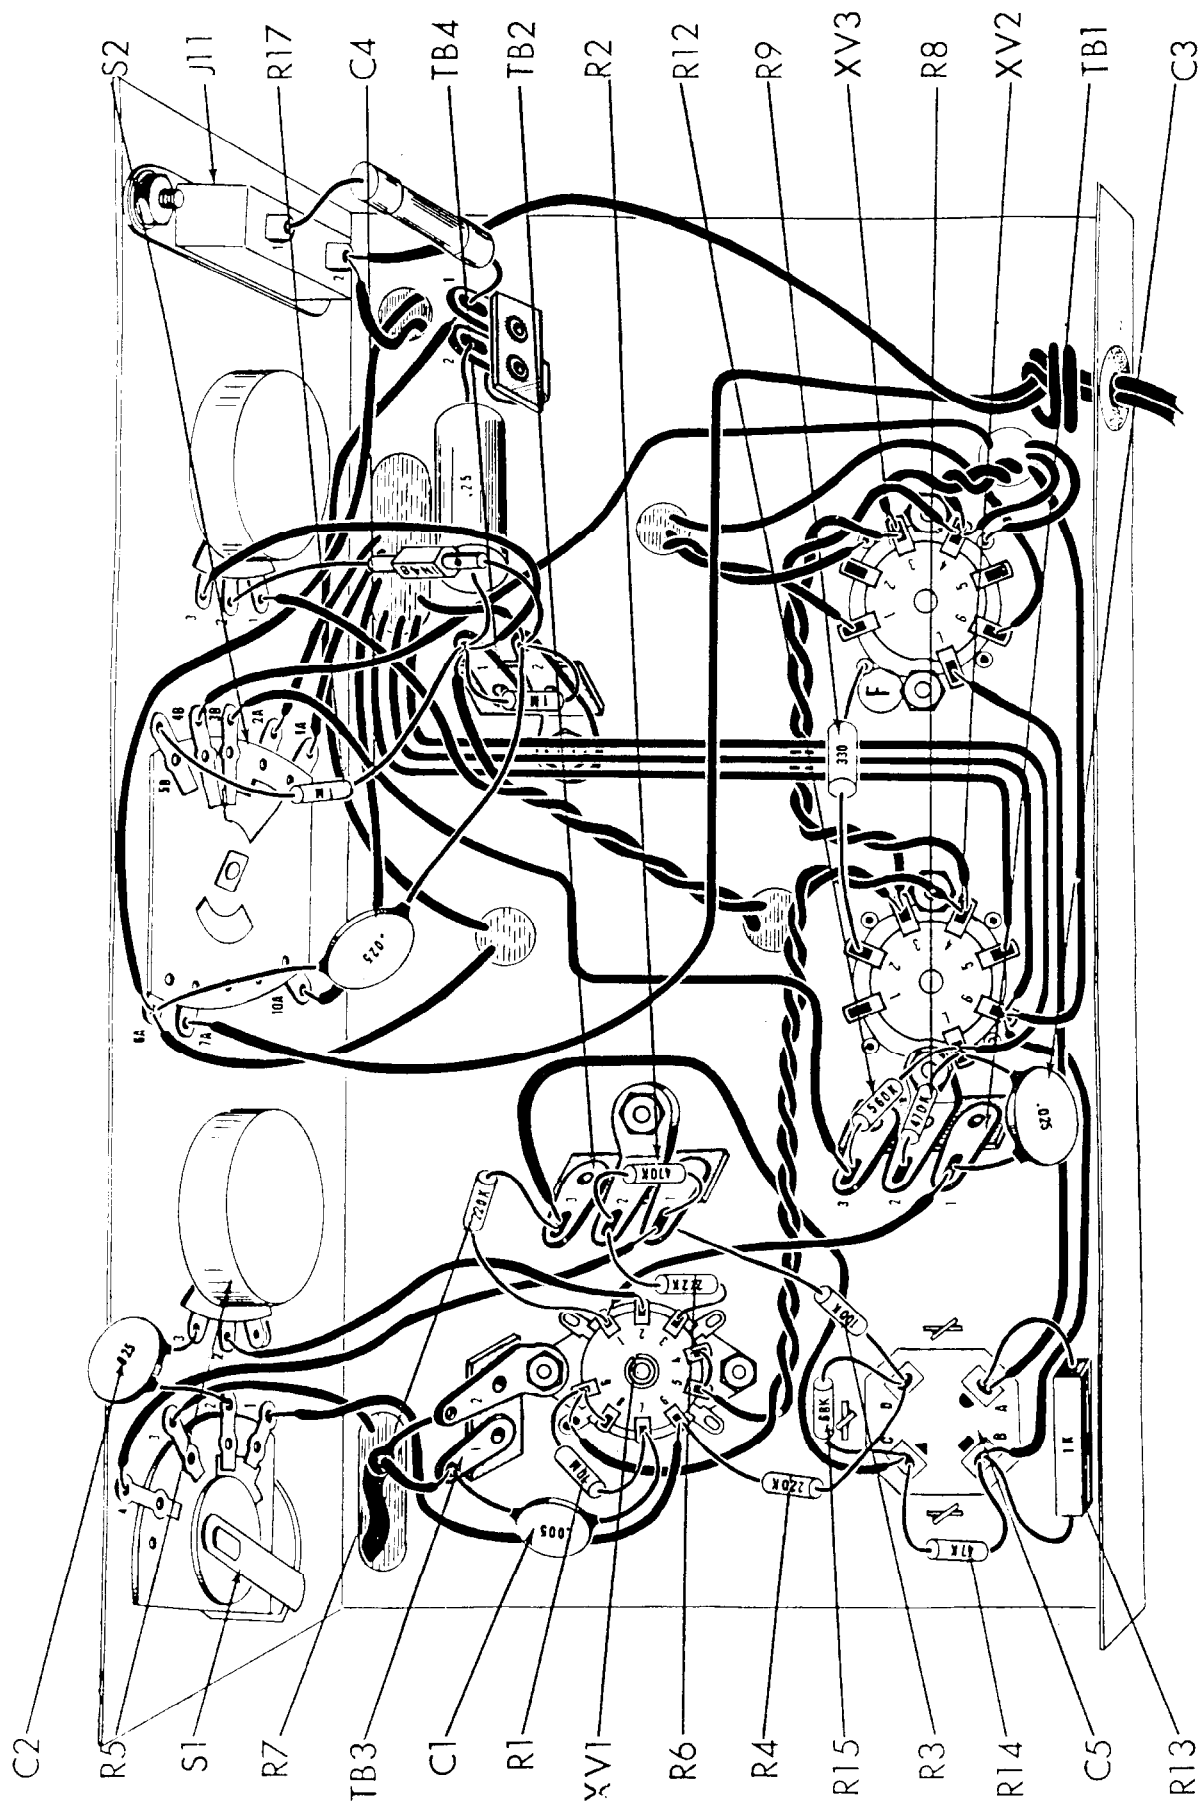

Fig. 5
1. () Fig. 5. Cut both leads on a 1M Ω (brown, black, green, silver) resistor, R17, to 3/4". Connect from S2-5B (S) to TB4-1 (S).
2. () Fig. 5. Cut both leads on a .025 mfd (25K or 25,000 mmf) disc capacitor, C4, to 1 1/4". Connect from S2-6A (S) to TB4-2 (S). Do not over heat TB4 or diode will be ruined.
3. () Fig. 5. Cut both leads on a 330 Ω (orange, orange, brown, silver) resistor, R9, to 3/4". Connect from XV2-2 (S) to ground lug "F" on XV3 (S).
4. () Fig. 5. Cut both leads on a 560K Ω (green, blue, yellow, silver) resistor, R12, to 1/2". Connect from TB1-3 (S) to XV2-7 (C).
5. () Fig. 5. Cut both leads on a 470K Ω (yellow, violet, yellow, silver) resistor, R8, to 1/2". Connect from TB1-2 (S) to XV2-7 (C).
6. () Fig. 5. Cut both leads on a .025 mfd (25K or 25,000 mmf) disc capacitor, C3, to 1/2". Connect from XV2-7 (S) to TB1-1 (C).
7. () Fig. 5. Connect a 3" piece of green wire from TB1-1 (S) to XV1-1 (C).
8. () Fig. 5. Bend ground lug over pin 1 of R5 and solder lug to this pin.
9. () Fig. 5. Connect a 4" piece of violet wire from S1-4 (S) to TB2-1 (C).
10. () Fig. 5. Connect a 3" piece of green wire from R5-2 (S) to XV1-2 (S).
11. () Fig. 5. Cut both leads on a .025 mfd (25K or 25,000 mmf) disc capacitor, C2, to 3/4". Connect from R5-3 (S) to S1-2 (S).
12. () Fig. 5. Connect a 1/2" piece of bare wire from XV1-8 (S) to XV1-9 (C).
13. () Fig. 5. Cut both leads on a 5000 mmf (5K or .005 mfd) disc capacitor, C1, to 3/4". Connect from TB3-1 (S) to XV1-7 (C).
14. () Fig. 5. Cut both leads on a 10M Ω (brown, black, blue, silver) resistor, R1, to 1/2". Connect from XV1-9 (S) to XV1-7 (S).
15. () Fig. 5. Cut both leads on a 220K Ω (red, red, yellow, silver) resistor, R4, to 1". Connect from XV1-6 (S) to C5D (C).
16. () Fig. 5. Cut both leads on a 220K Ω (red, red, yellow, silver) resistor, R7, to 1/2". Connect from XV1-1 (S) to TB2-3 (S).
17. () Fig. 5. Cut both leads on a 2.2K Ω (red, red, red, silver) resistor, R6, to 1/2". Connect from XV1-3 (S) to TB2-2 (C).
18. () Fig. 5. Cut both leads on a 470K Ω (yellow, violet, yellow, silver) resistor, R2, to 1/2". Connect from TB2-2 (S) to TB2-1 (C).
19. () Fig. 5. Cut both leads on a 100K Ω (brown, black, yellow, silver) resistor, R3, to 3/4". Connect from TB2-1 (S) to C5D (C).
20. () Fig. 5. Cut both leads on a 68K Ω (blue, grey, orange, silver) resistor, R15, to 1/2". Connect from C5C (C) to C5D (S).
21. () Fig. 5. Cut both leads on a 47K Ω (yellow, violet, orange, silver) resistor, R14, to 1/2". Connect from C5C (S) to C5B (C).
22. () Fig. 5. Cut both leads on the 1K Ω , 5W, resistor, R13, to 1". Connect from C5A (S) to C5B (S).
23. () Fig. 5. Push the line cord through the grommet at the rear of the chassis. Make a knot 6" from the tined lead end of the wire, inside the chassis. "Zip" the leads apart for 4". Connect one lead to S2-7A (S) and the other lead to J11-2 (S).